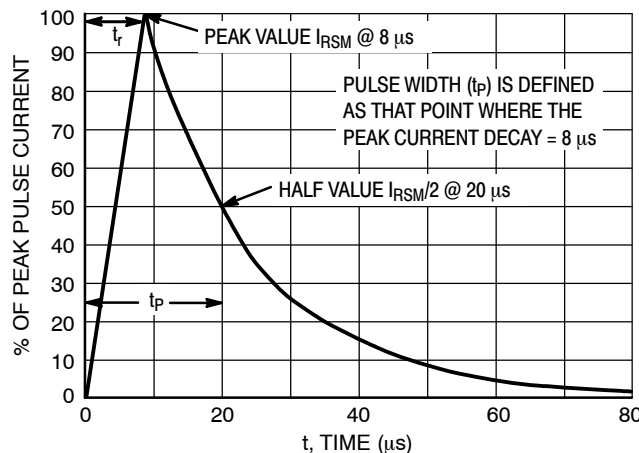

Figure 5. 8 X 20 μ s Pulse Waveform
1. Surge current waveform per Figure 5.